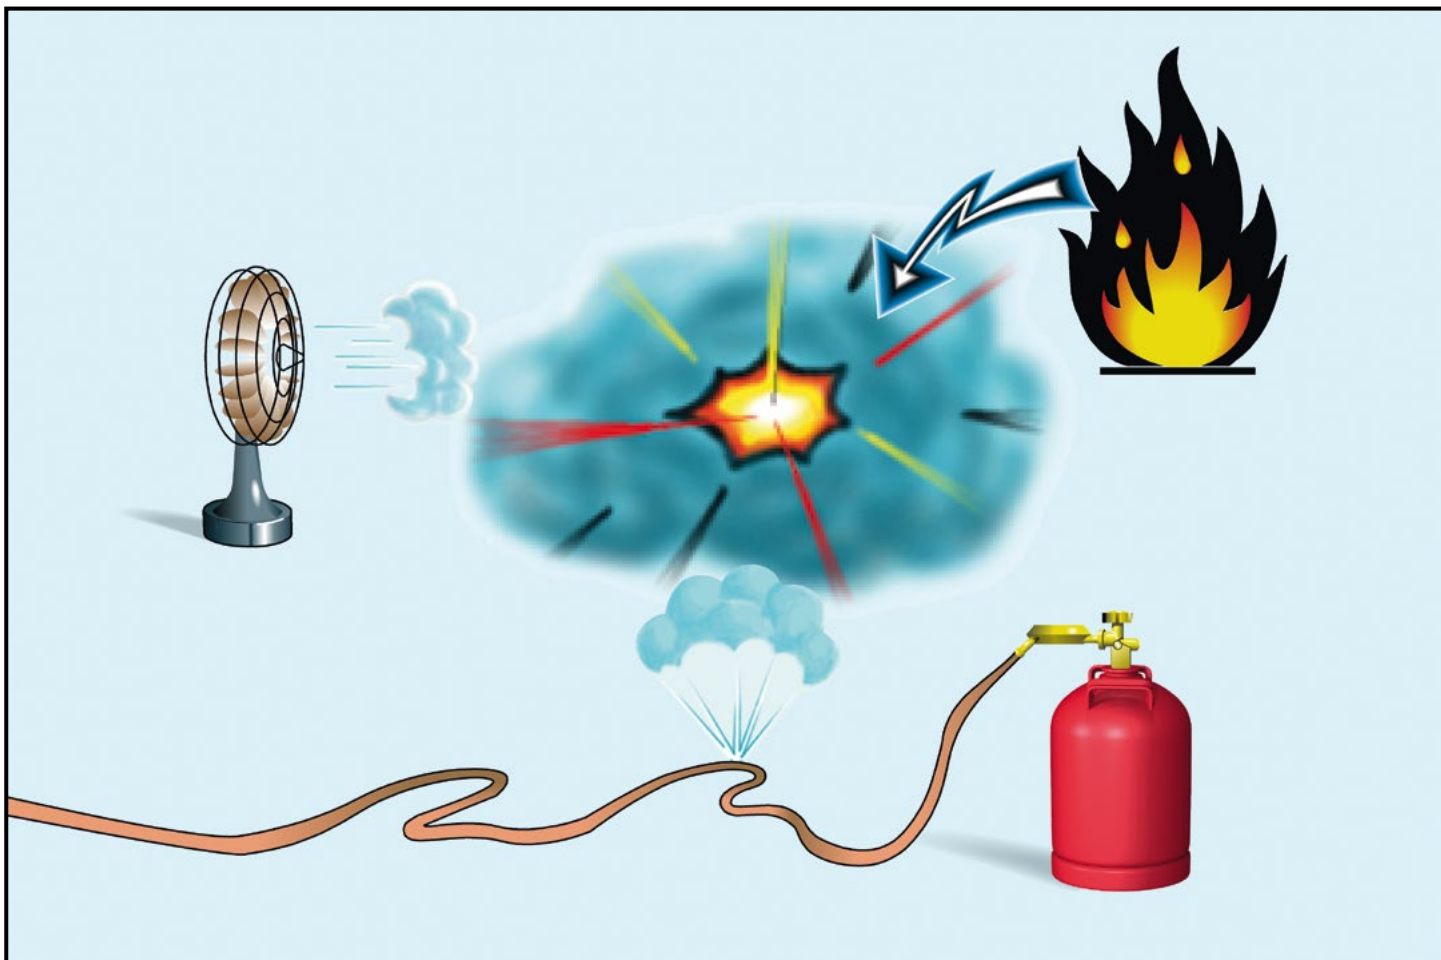

Figure 8:
- LPG is an extremely flammable gas that can form explosive mixtures with air or oxygen (Fig. 8).